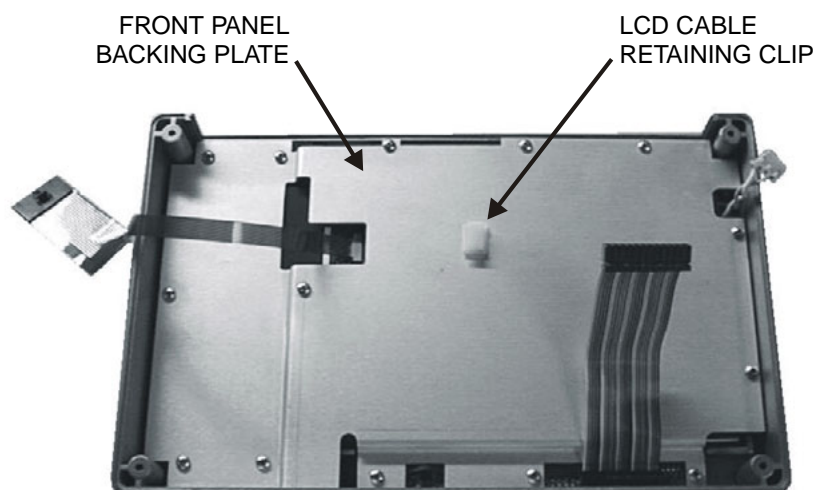

Figure 4-4. Front Panel Backing Plate
3. Remove the 14 Phillips screws that attach the backing plate to the front panel assembly (Figure 4-4).
4. Release the LCD display cable from the retaining clip on the front panel backing plate (Figure 4-4).